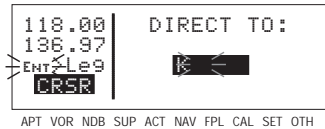

Figure 3-97
3. Turn the right outer knob one click clockwise to move the flashing portion of the cursor over the second character position (figure 3-97).